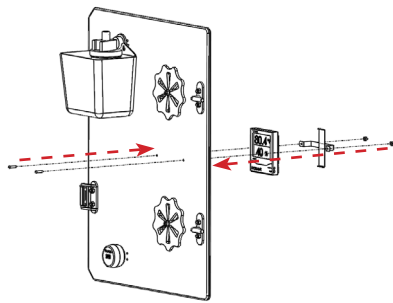

FIGURE 3.6 - Thermometer (Front View)
**STEP 1:** Remove the two screws and acorn nuts to remove the bracket and meter. See FIGURE 3.6